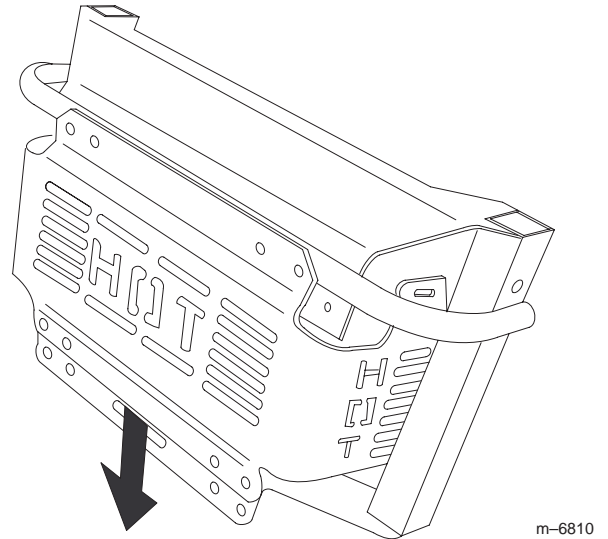

Figure 7
8. Slide the heat shield down until the holes align with the bagger bracket holes (Fig. 7).